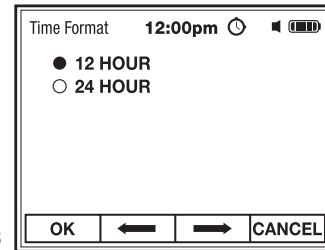

Fig. 28
2. Use the **F2** \leftrightarrow and **F3** \Rightarrow soft keys to select a 12 hour or 24 hour clock (Fig. 28).